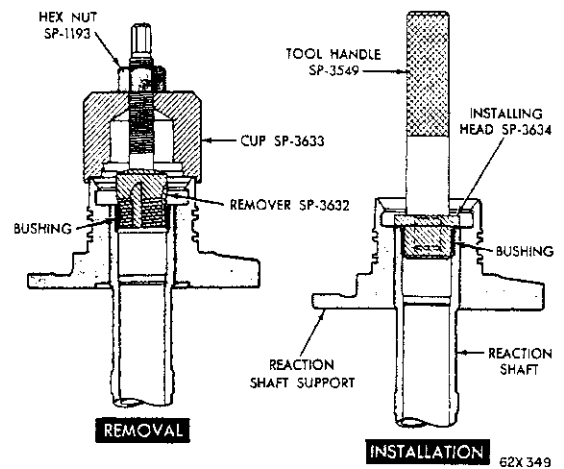

Fig. 88—Removing the Reaction Shaft Bushing—TorqueFlite
(2) With the cup held firmly against the reaction shaft, thread the remover into the bushing as far as possible by hand (Fig. 88).
(3) Using a wrench, screw the remover into the bushing 3 to 4 additional turns to firmly engage the threads in the bushing.
(4) Turn the hex nut down against the cup to pull the bushing from the reaction shaft. Thoroughly clean the reaction shaft to remove the chips made by the remover threads.
(5) Lightly grip the bushing in a vise or with pliers and back the tool out of the bushing. Be careful not to damage the threads on the bushing remover.
(6) Slide a new bushing (chamfered end first) on the installing head Tool SP-3534, and start them in the bore of the reaction shaft.
(7) Support the reaction shaft upright on a clean smooth surface and install handle Tool SP-3549 in the installing head (Fig. 88). Drive the bushing into the shaft until the tool "bottoms."
(8) Thoroughly clean the reaction shaft support assembly before installation.